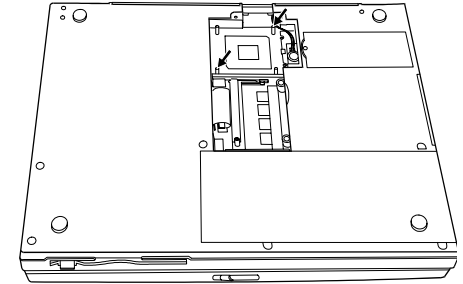

Figure 5-12. Removing Two Standoffs
3. Replace two screw standoffs. Place the fan assembly on top of the CPU and plug the power cord. (Refer to Figure 5-12 and 5-11 earlier.)